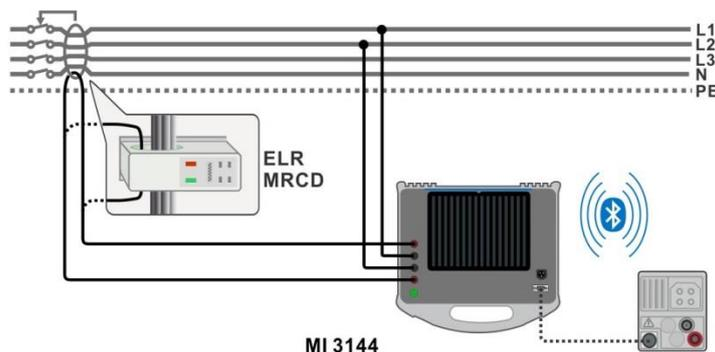

Figure 7.113: ELR Current Injection Test / Combination Time Test connection
- ▶ Connect MI 3152(H) instrument with MI 3144 Euro Z 800 V instrument via serial RS232 or pair them using Bluetooth communication. See chapter **4.6.5.1 Configuration of measuring adapters**.
- ▶ Check Bluetooth communication active sign if MI 3144 Euro Z 800 V instrument is connected to MI 3152(H) instrument via Bluetooth communication.
- ▶ Connect test leads to the object under test. See **Figure 7.113**.
See **Figure 7.113**.
- › Connect MI 3152(H) instrument with MI 3144 Euro Z 800 V instrument via serial RS232 or pair them using Bluetooth communication. See chapter **4.6.5.1 Configuration of measuring adapters**.
- › Check Bluetooth communication active sign if MI 3144 Euro Z 800 V instrument is connected to MI 3152(H) instrument via Bluetooth communication.
- › Connect test leads to the object under test. See **Figure 7.113**. Refer to **MI 3144 Euro Z 800 V Instruction manual** for detailed information.